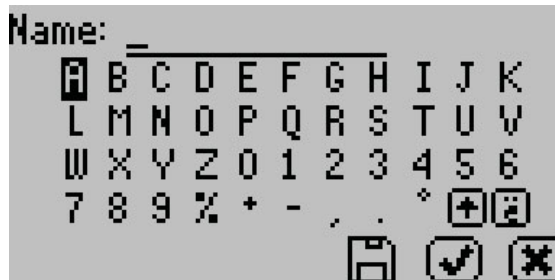

Figure 6 Keyboard screen to annotate data results
9. Autosave (default setting) retains the data without any annotation (Section 3.2.4.2). To add an annotation, select **SAVE**, add desired letters, and select **SAVE** again (Figure 6).